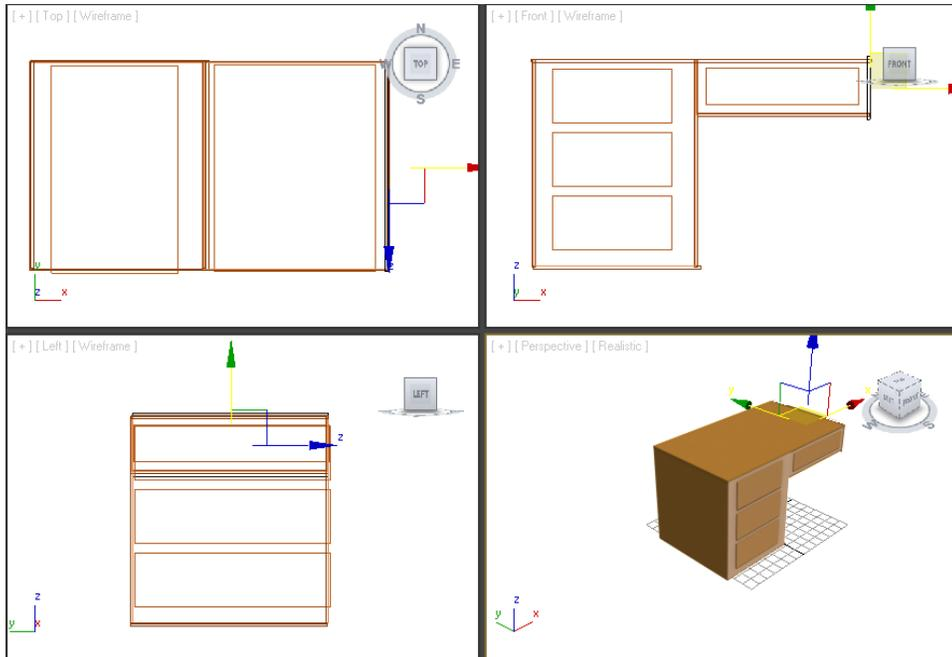

Figure 2-52 Alignment of right face with the right side of right box of the table
16. Align *right face* with the right side of *right box*, as shown in Figure 2-52.